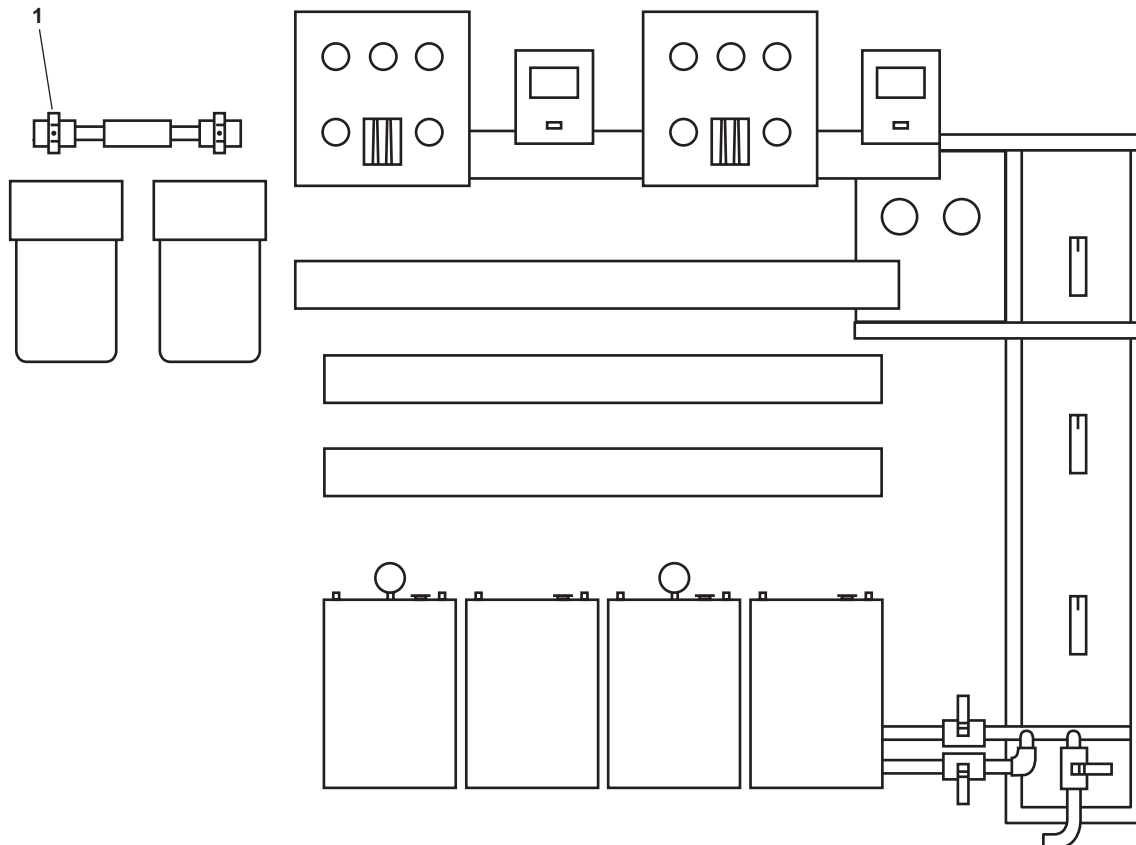
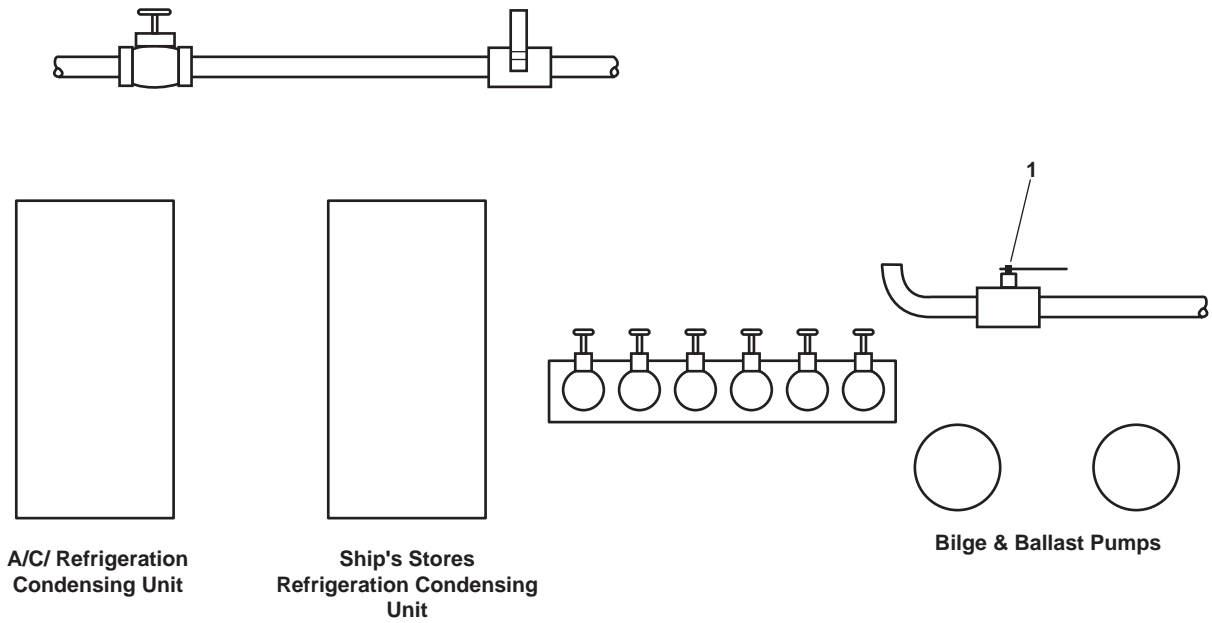

Figure 2. ROWPU System Front View
Figure 3. Potable Water Valves on AMS 2 Aft Bulkhead
2. CLOSE, lock out, and tag out (FM 55-502) valves RO-V-6 (figure 2, item 1) and RO-V-9 (figure 3, item 1).